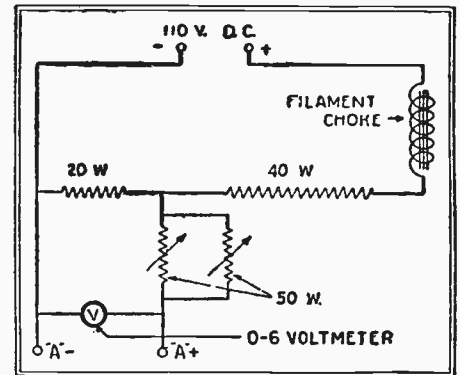

FIG. 17—The hook-up for the D.C. "A" eliminator is shown in the above drawing.
A. 1. The equipment necessary for this purpose consists of a variable condenser of .0005-mf. capacity and a loading coil, of 100 turns of No. 24 D.C.C. wire on a 2½-inch tube, or a 100-turn honeycomb coil. It will also be necessary to construct a coupling coil to be used in place of the loop antenna. The rotor (primary) of the coupler may be wound on a 1¾-inch tube and should have not more than 20 turns of No. 24 or No. 26 D.C.C. wire. The secondary may be wound on a 2½-inch tube with 70 turns of No. 24 or No. 26 D.C.C. wire, a tap being taken out at the 35th turn. The coupling between the rotor and stator should be very loose, to prevent the tuning from being broad. When the rotor has been adjusted, the antenna tuning is accomplished entirely with the antenna series condenser, which will have a low capacity setting for the short wave, and will be set at practically full capacity at the higher waves. See Fig. 17.